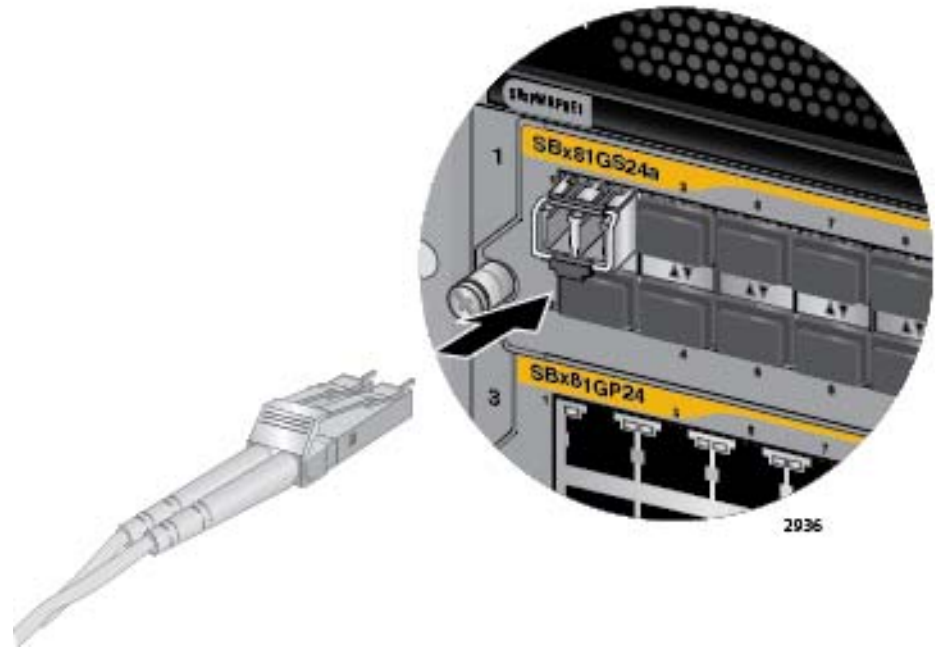

Figure 80. Attaching a Fiber Optic Cable to an SFP Transceiver in the AT-SBx81GS24a Line Card
7. Connect the fiber optic cable to the port on the transceiver, as shown in Figure 80. The connector should snap into the port.